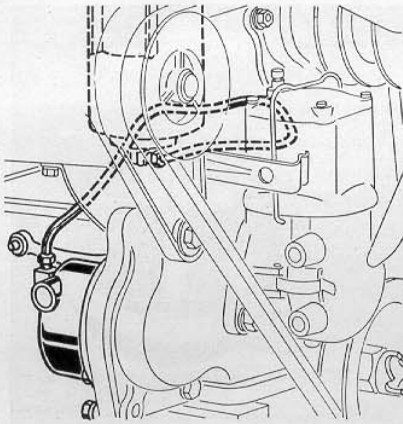

Fig. FO29—Governor external oiling system on models 2N-8N-9N.
43. The governor, shown in Fig. FO-28 is a variable speed, ball type, driven by engine timing gears and interconnected with the throttle linkage and carburetor throttle valve. Splash lubrication is provided from timing gear case and it is important that the large oil passage opening in governor ball bearing carrier plate, be installed at top or up position to assure proper lubrication. Further lubrication is provided by an oil line which connects between rear of governor housing and oil filter as shown in Fig. FO29. Early model tractors were not provided with